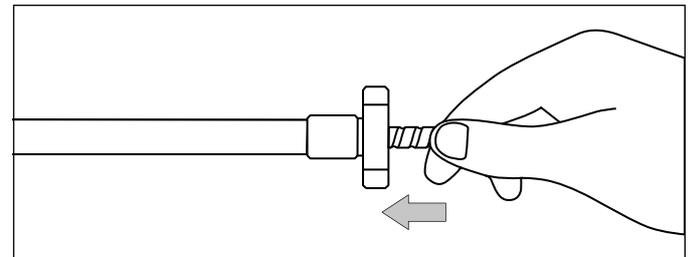

Fig. 20: Hold the flexible sensor rod close to the flange when inserting it
2. When inserting the flexible sensor rod, hold it close to the flange and insert it slowly into the support tube (Fig. 20). This allows air in the support tube to escape.
- When inserting the flexible sensor rod, hold it close to the flange and insert it slowly into the support tube (Fig. 20). This allows air in the support tube to escape.
- When inserting the flexible sensor rod, hold it close to the flange and insert it slowly into the support tube (Fig. 20). This allows air in the support tube to escape